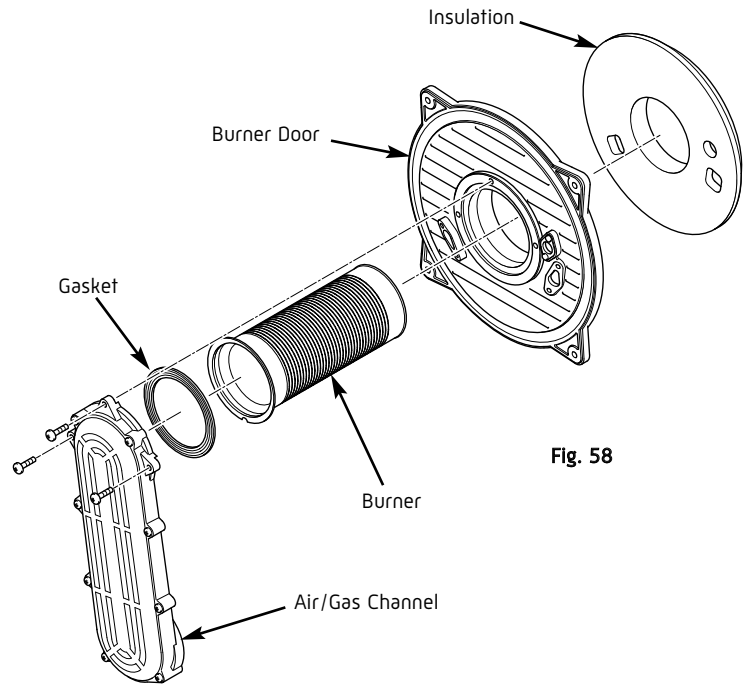

Fig. 58
4. Slowly withdraw the burner from the burner plate taking care not to damage the insulation (Fig. 58).